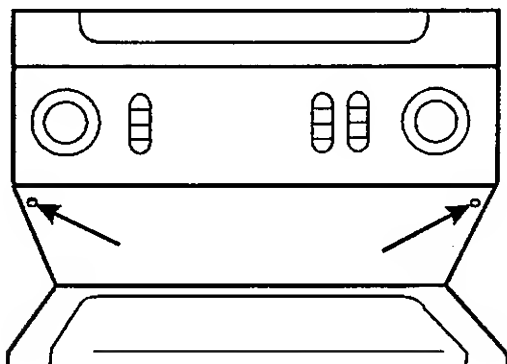

Figure 4-1 SL011TIF
2. Remove the two screws securing the access panel to the washer/dryer (*Figure 4-1*).